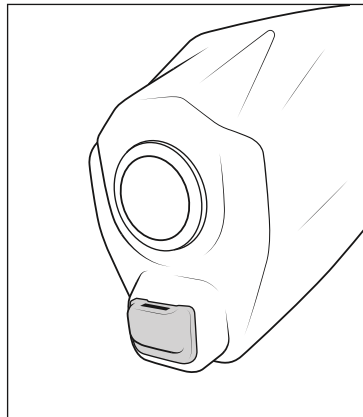

Figure 9
- H. Clip the washer nozzle in from the outside of the housing so that the nozzle is pointed at the camera lens (fig. 9).